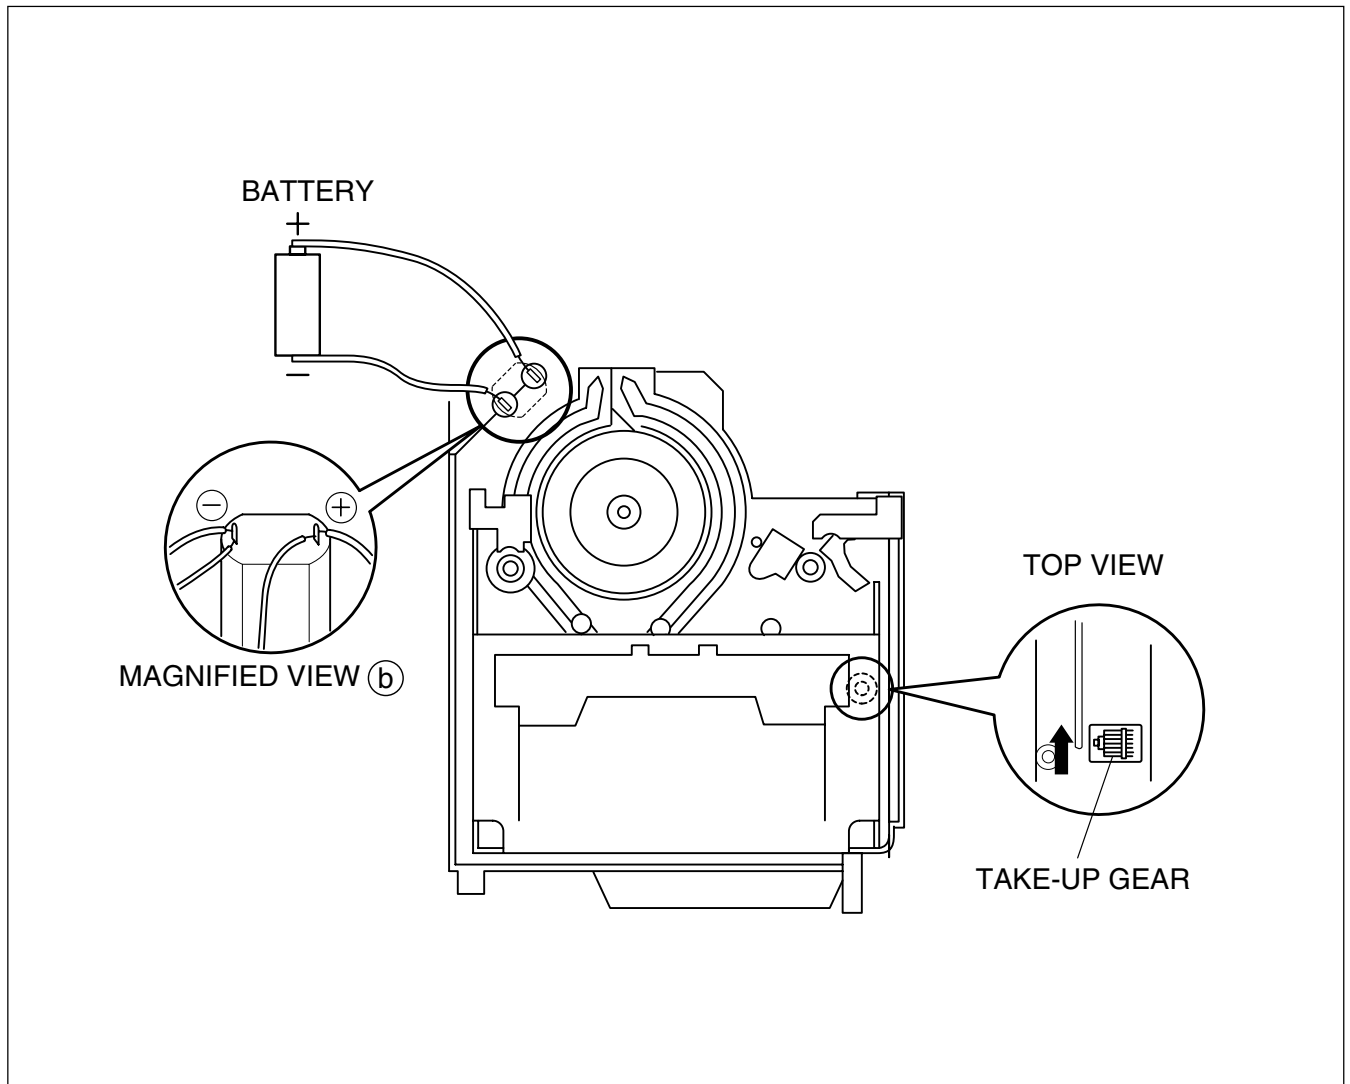

Fig. 1-6-1
3. Connect a jumper wire to each pole of the loading motor as shown by the magnified view (Fig. 1-6-1)